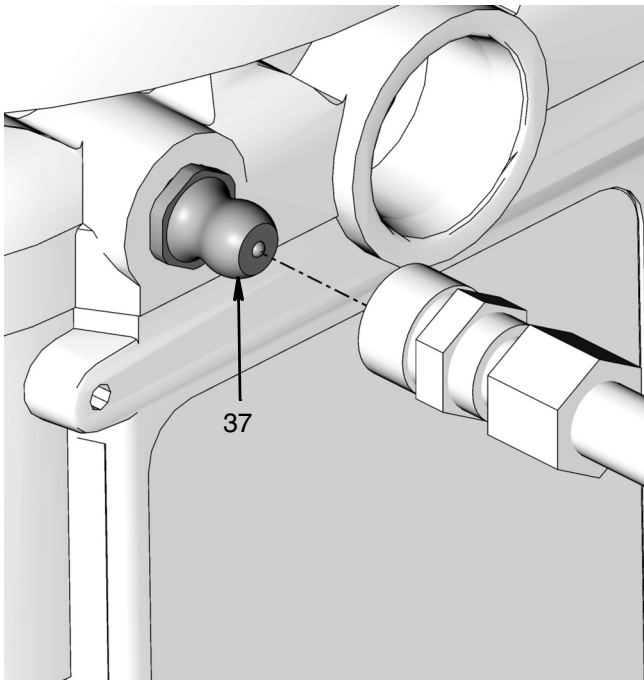

FIG. 11
1. Connect fill hose to inlet fitting \*(37) (FIG. 11).
1. Connect fill hose to inlet fitting (FIG. 11).